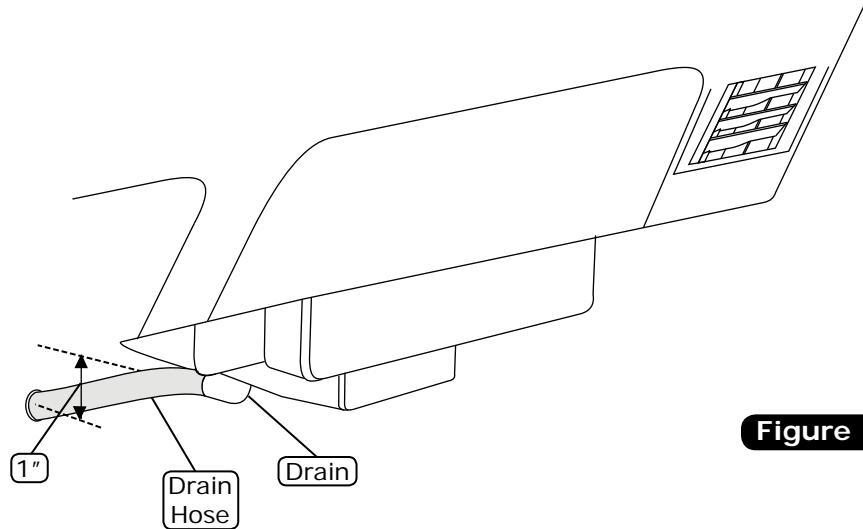

Figure 13
2. In line with the drain, lightly make a mark on the firewall. Measure one inch down and drill a 5/8" hole through the firewall (See Figure 13, below).
3. Install the drain hose onto the bottom of the evaporator unit, and route it through the firewall (See Figure 13, below).